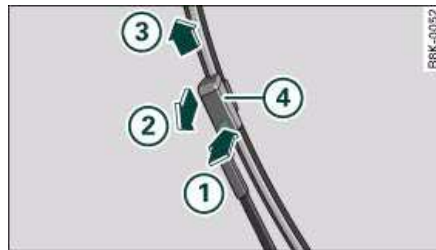

Fig. 70 Removing the wiper blades
- Press the release button (1) on the wiper blade ⇒ *fig. 70*. Hold the wiper blade firmly and press it forwards slightly (2).
- Slide the wiper blade upwards (3).